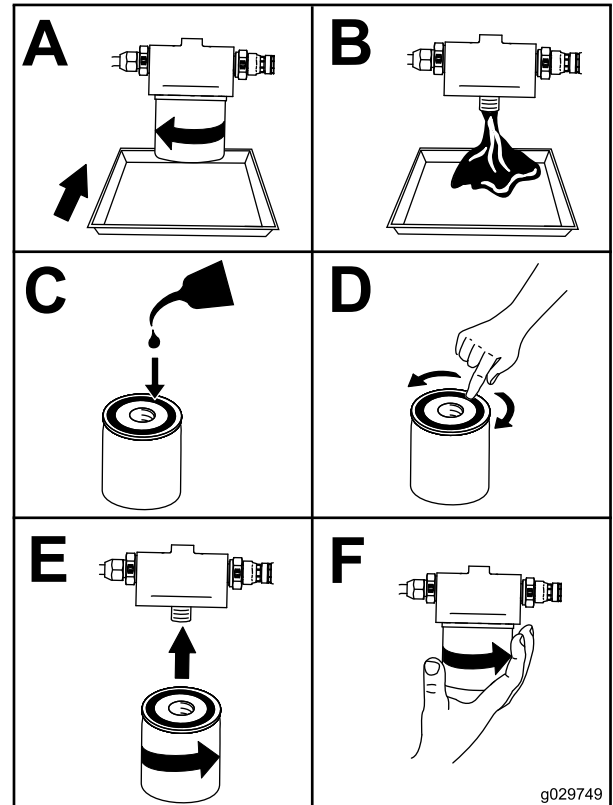

Figure 48
- Change the oil filter (Figure 48).